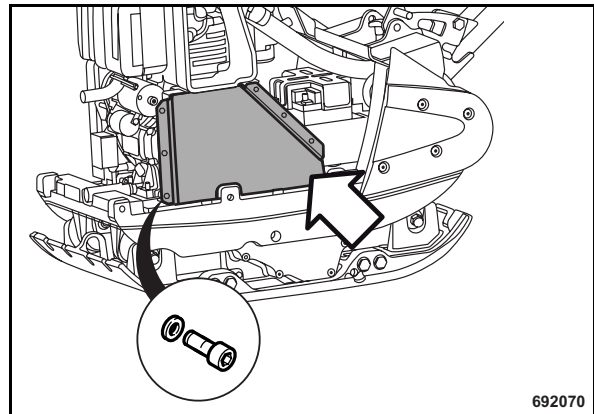
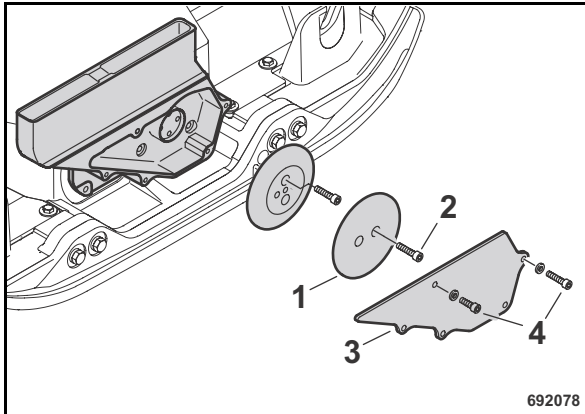

Fig. 54
Fig. 56
- Remove the V-belt guard (Fig. 54).
- Remove the safety cover (3) (Fig. 56).
- Loosen screw (2).
- Remove the front disc (1) from the centrifugal clutch.
- Attach the front disc (1).
- Tighten the screws (2).
- Reinstall the protective cover (3) and tighten the screws (4) (tightening torque 15 Nm (11 ft.lbs)).
- Install the top V-belt guard (Fig. 54).